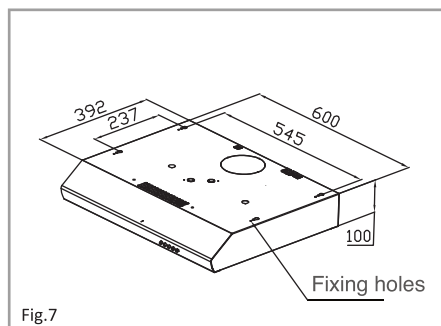

Fig.7
2. Mark the positions of the fixing holes on the underside of the cabinet, in the position shown in Fig.7.